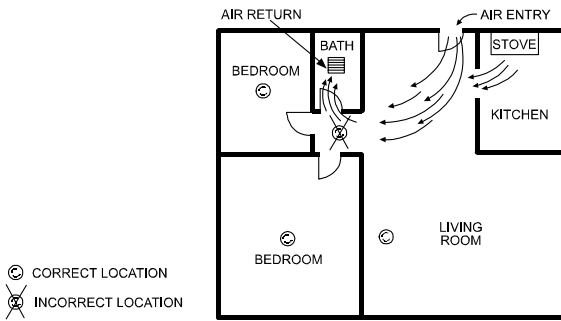

Figure 10. Recommended Smoke Detector Locations to Avoid Air Streams with Combustion Particles
- Do not mount smoke detectors in the path of fresh air intake. The flow of fresh air in and out can drive smoke away from the smoke detector; thus reducing its efficiency. Figure 10 indicates the correct and incorrect locations concerning this problem.